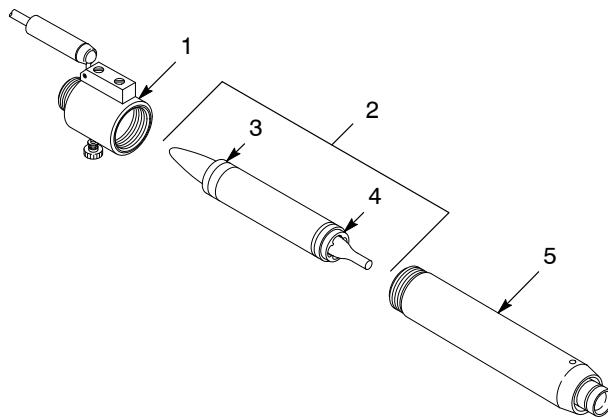

Figure 6-6 Installing the Charge Module—Steps 3 and 4
3. See Figure 6-6. Insert the inner/outer wear sleeve assembly (2) into the body (1) with the inlet distributor (cone-shaped end) first. Make sure the positioning ring (3) fits into the groove in the ID of the inlet wear sleeve.